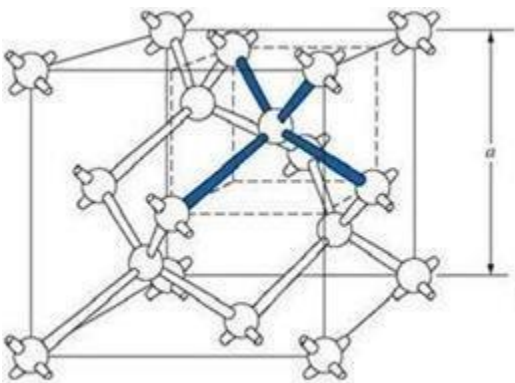

Fig.1
- (a) Which is correct? (1) A-  -B (2) B-  --A
3. Silicon crystal structure as show in Fig. 1, if the Si-Si bond length is 2.37\AA , bond angle is 109.5°